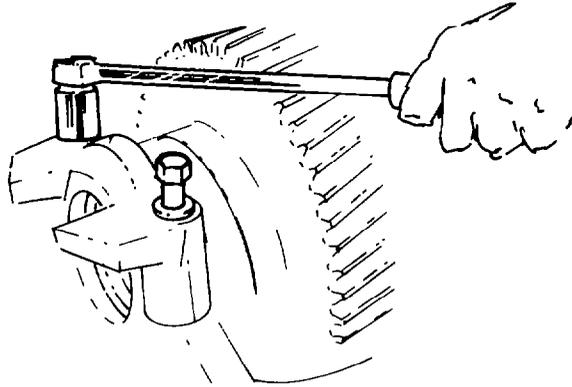

Fig. 293 — Removing Bearing Cap Retaining Bolts
- e. Remove the bearing cap retaining bolts, then remove the bearing caps (see fig. 293).